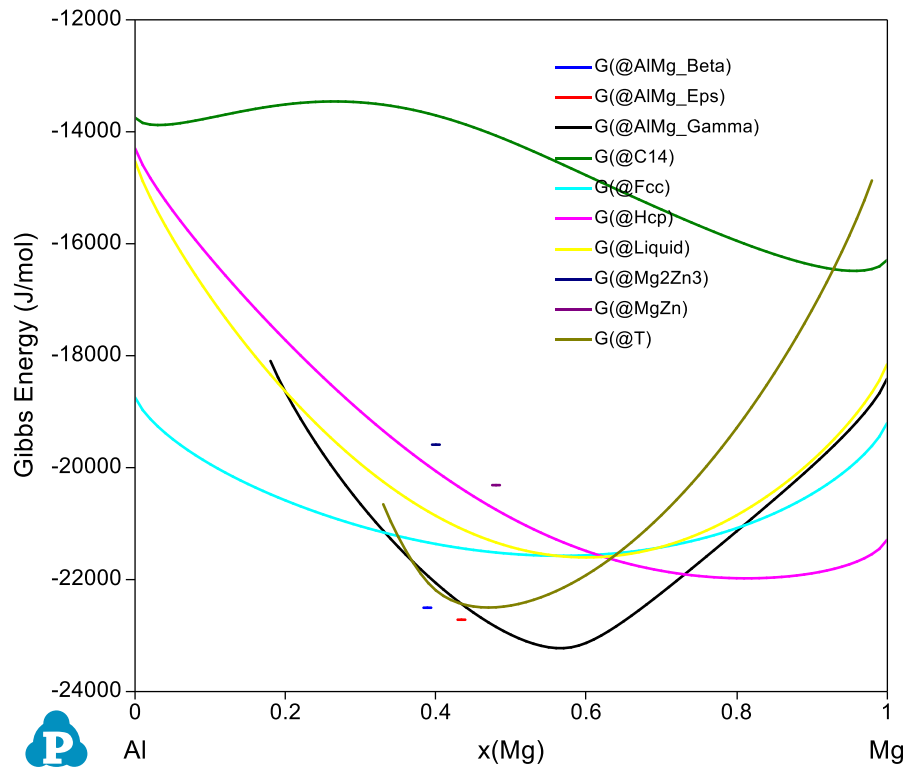

Figure 1.9.5: Calculated Gibbs energy of each individual phase by Line calculation
- If the “Individual Phases” is checked, and G(@*) is selected instead of G, the Gibbs energy curve of every phase as a function of composition will be calculated as shown by Figure 1.9.5;
- Figure 1.9.5 shows the Gibbs energy curve of every individual phase as a function of $x(\text{Mg})$